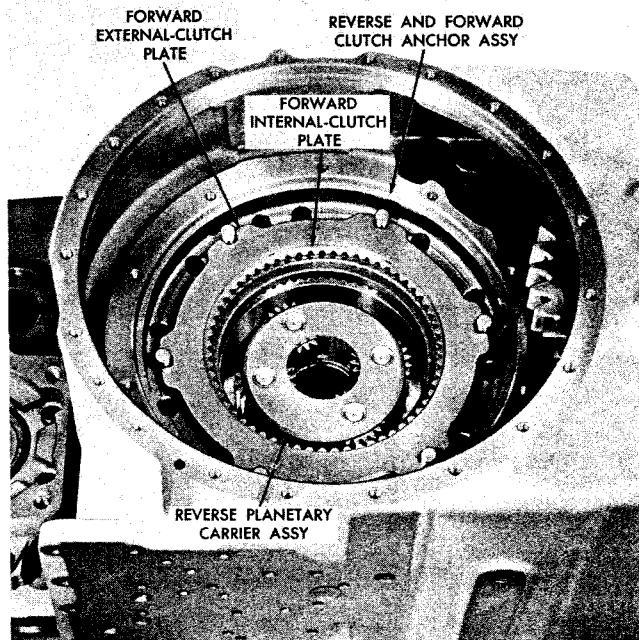

Fig. V-26. Removing remainder of forward-range clutch plates
(6) Remove two internal- and two external-clutch plates (fig. V-26).